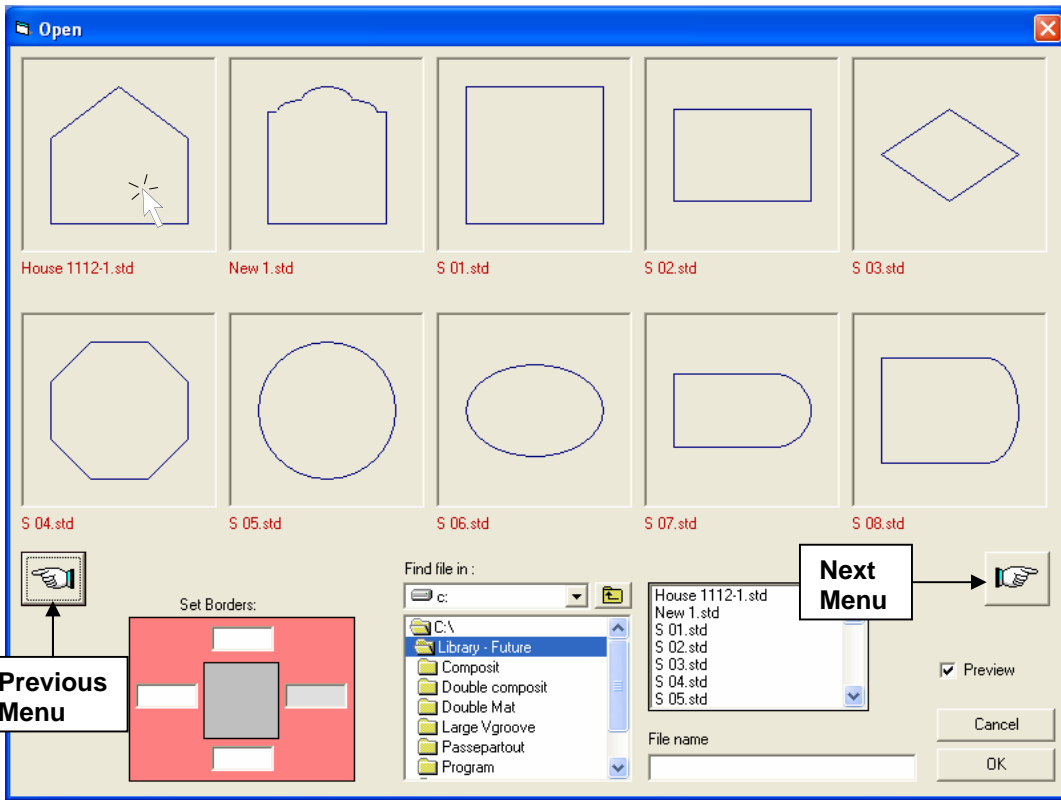

Figure 2.8
**Insert Saved Shape (F4):** This tool opens the saved Shapes menu, shown on next page (Figure 2.8).